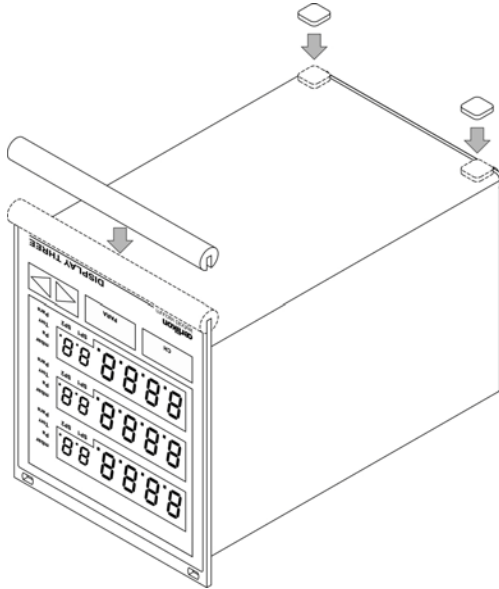

Figure 5 – Use as a benchtop instrument
- Place the multichannel gauge on its back (🔑📖 Figure 5, page 15)